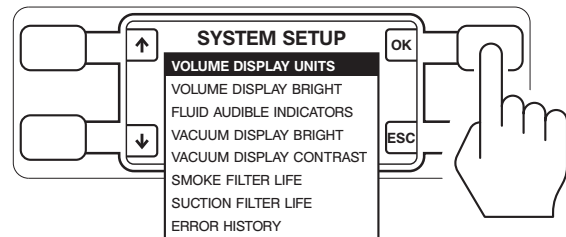

Figure 18 System Setup Screen
4. From the SYSTEM SETUP screen, push the buttons next to the arrow icons to highlight the appropriate system setting. Push the button next to OK to view the desired system setting screen (Figure 18).